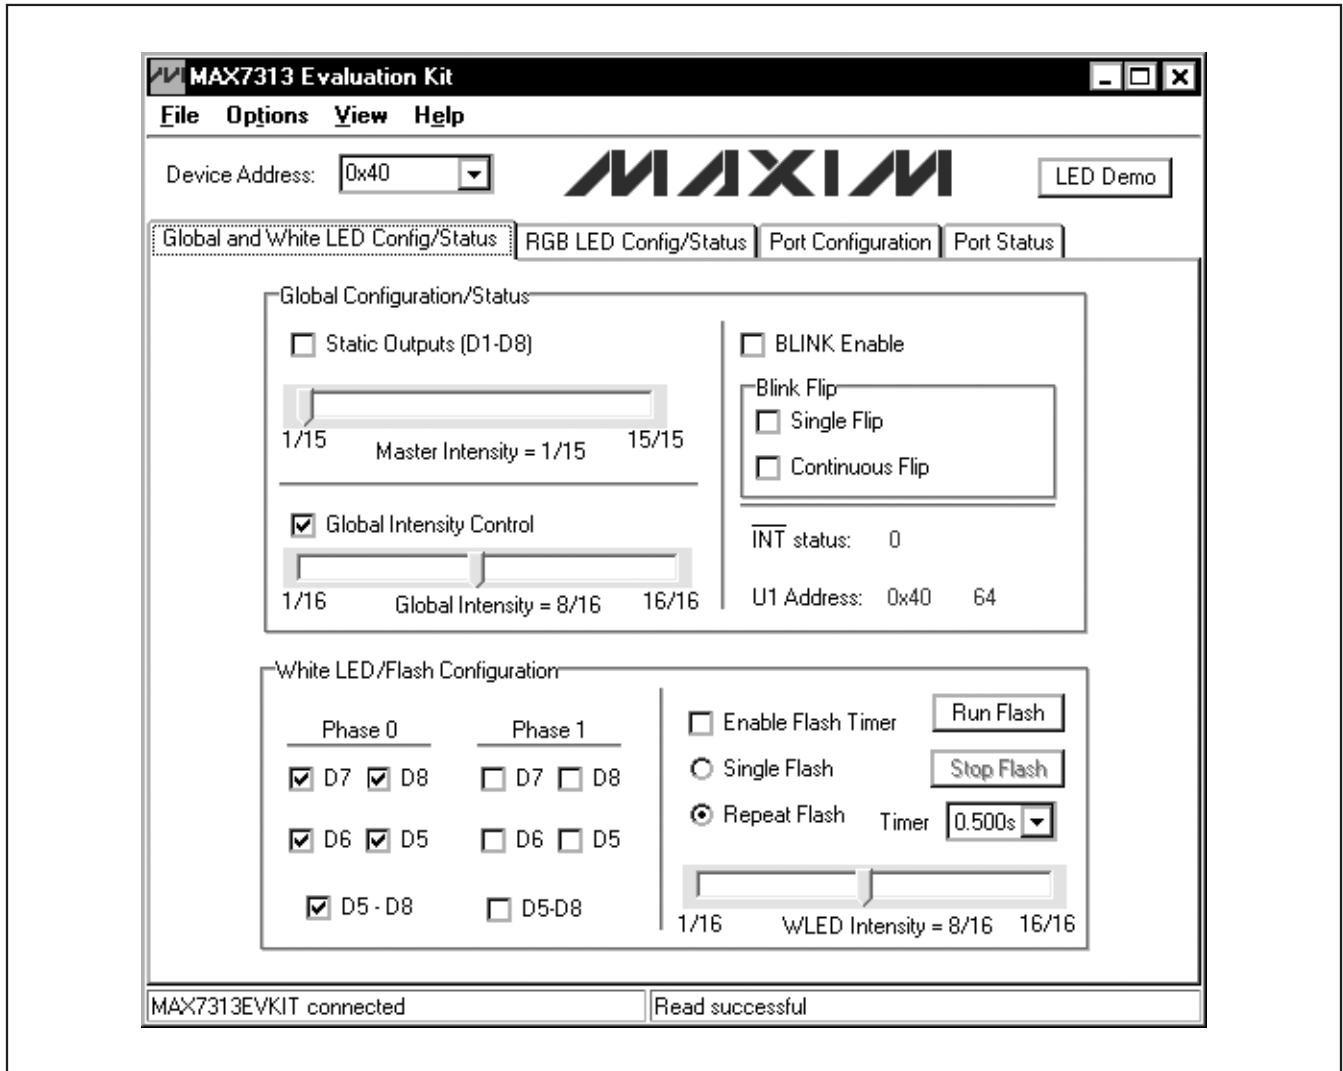

Figure 1. MAX7313 Evaluation Software Main Window (Global and White LED Config/Status Tab)
- 7) Start the EV kit software by opening its icon in the **Start | Programs** menu. The EV kit software main window should appear as shown in Figure 1.
Upon starting the program, the MAX7313 EV kit software establishes a connection with the EV kit's on-board interface and automatically detects the U1 serial address. Once a connection has been made, the software initializes the MAX7313 IC and starts up with the **Global and White LED Config/Status** tab selected (see Figure 1). When initialized, the IC is configured to operate with ports P0–P15 as outputs and port INT/O16 as an interrupt output. Table 1 lists the initialized state of the device registers.